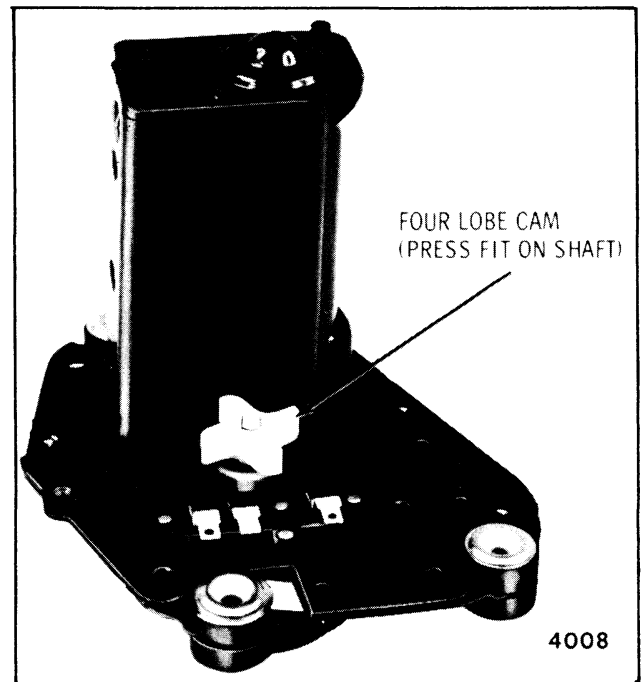

Fig. 2-16-Cam Positioning
2. Position four lobe cam as shown in Figure 2-16. It may be necessary to manually rotate crankarm.